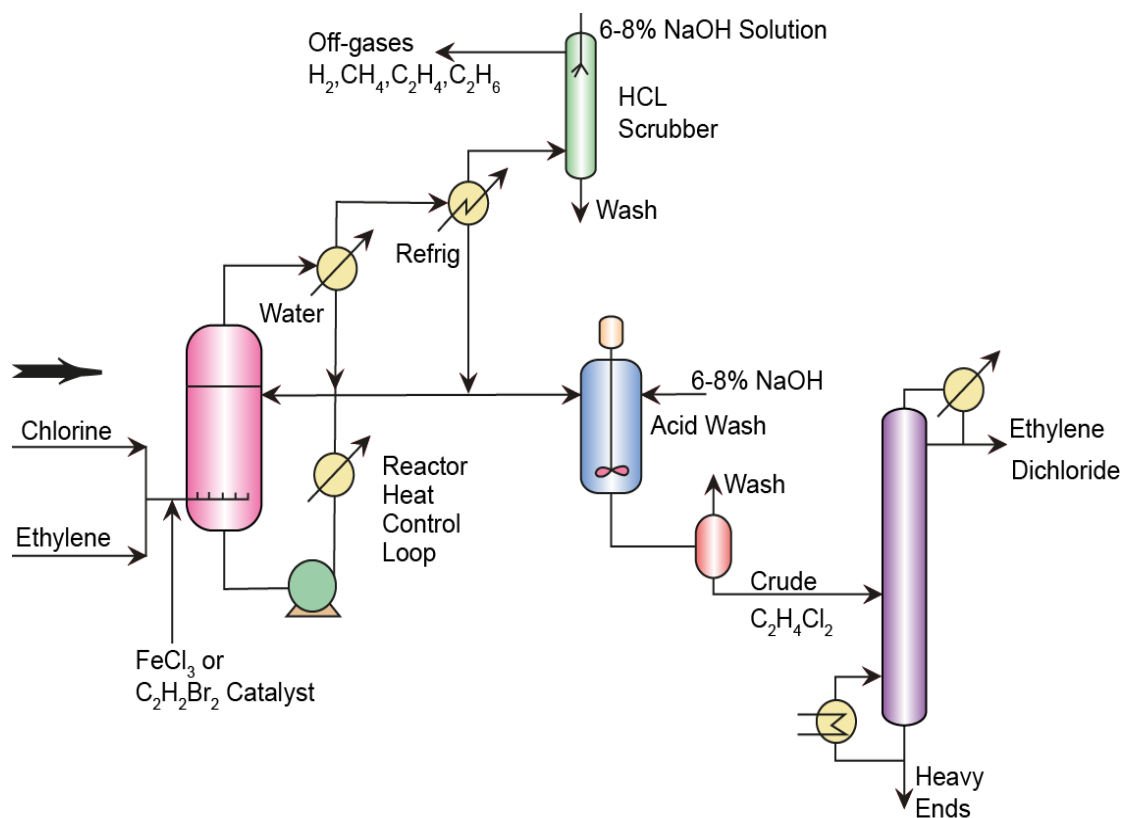

Figure 16.1 Flow sheet of production of ethylene dichloride
16.1.2 Process Technology (Figure 16.1)